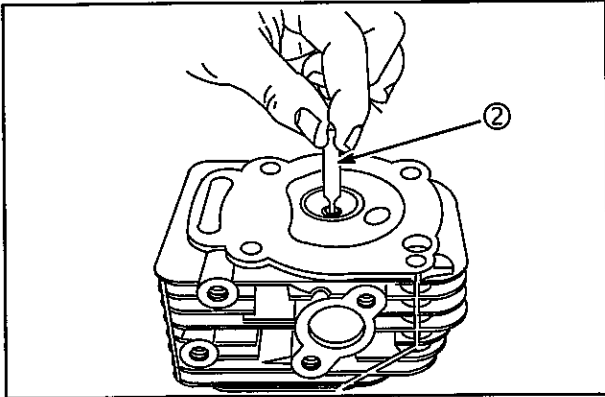

Fig. 10
2. Check valve guide bushings for wear using Plug Gauge (2) #19382, Fig. 10. Replace valve guide if gauge enters guide $1/4"$ (6 mm) or more.